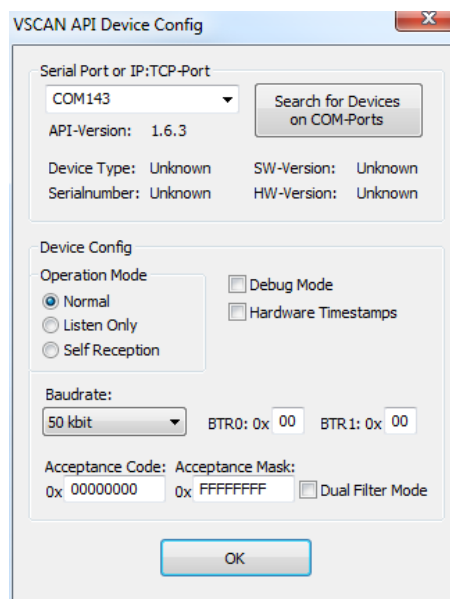

Figure 16: BUSMASTER: Configure Device
4. Click „Advanced” button to configure USB-CAN Plus device (see Figure 16). Setup COM143 as Serial Port, set Baudrate to 50kbit and Acceptance Mask to **0xFFFFFFFF**